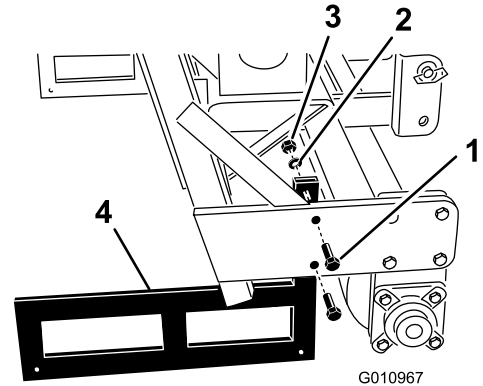

Figure 32
2. Remove the bolts, lock washers, and nuts securing the storage stands to each end of the aerator (Figure 32).